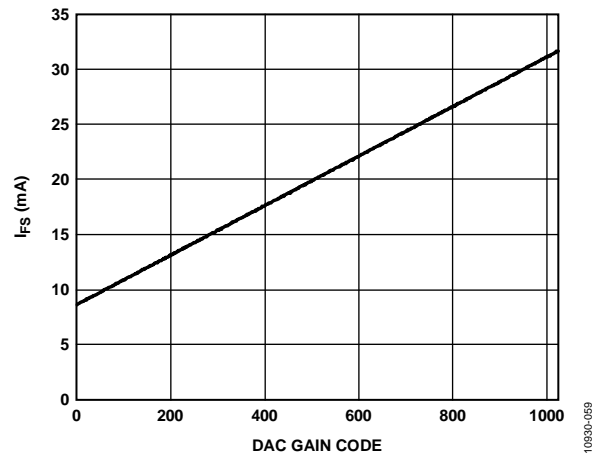

Figure 55. DAC Full-Scale Current vs. DAC Gain Code
For nominal values of V_{REF} (1.2 V), R_{SET} (10 kΩ), and DAC gain (512), the full-scale current of the DAC is typically 20.16 mA. The DAC full-scale current can be adjusted from 8.64 mA to 31.68 mA by setting the DAC gain parameter, as shown in Figure 55.